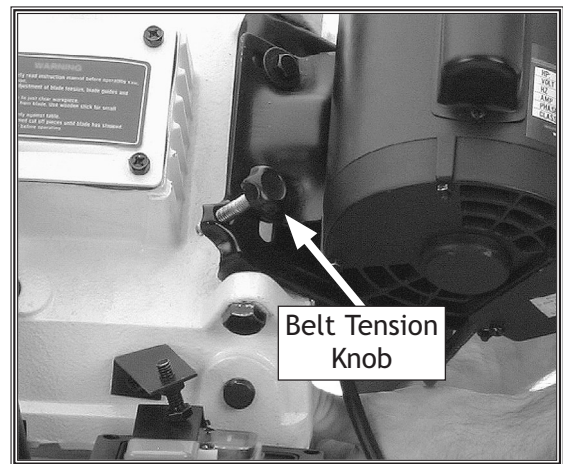

Figure 17. Belt tension knob.
4. Adjust the belt tension knob (**Figure 17**), so the belt has approximately $\frac{1}{4}$ " deflection when pressed in between the pulleys, then close and secure the cover.